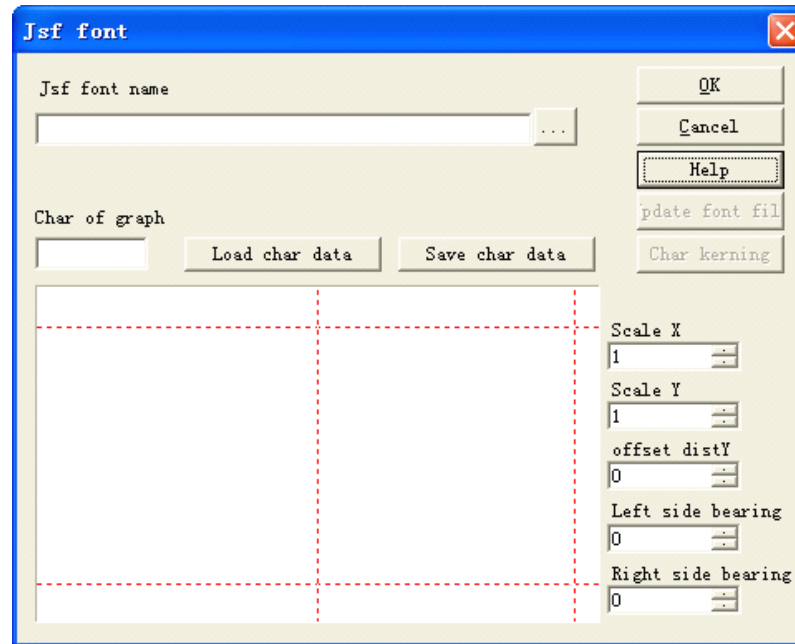

Fig 5-17 JSF font
When the user click JSF font, system will show a dialogue as figure 5-17.
Click "Modify" "JSF Fonts", then shown a font dialogue box as figure 5-17. Click button , and find ezcad2\font catalogue in the dialogue, input "EZCAD0521", and then click the button to indicate dialogue as the follow figure 5-23 .
1. Click "JSF fonts" under "modify" menu, then shown the JSF font dialogue, as the figure 5-17->Click , open the dialogue to find the route: ezcad2\font->Input "EZCAD0521"-->Click the button.